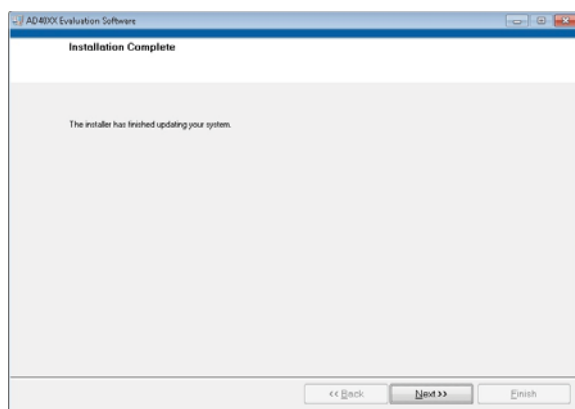
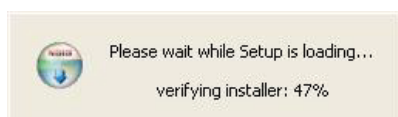

Figure 8. AD4020 Reference Design Software Installation Complete
Figure 9. Beginning of SDP-H1 Driver Installation
8. After the installation progress reaches 100%, click **Next>>** to complete the installation (see Figure 8).
1. After the AD4020 reference design software installation is complete, click **Next>>**, as shown in Figure 8. This command starts the SDP-H1 driver installation, as shown in Figure 9.